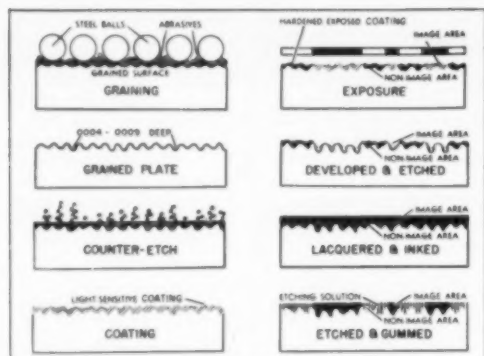

Figure 6. Deep-Etch Process. Graphical representation of the steps involved in the preparation of a deep-etch plate.
**DEEP-ETCH:** The deep-etch process is illustrated in Figure 6. In this process the coating is generally bichromated gum arabic. The coated plate is exposed through a positive so that the non-printing areas are tanned. The plate is then developed with a lactic acid solution containing calcium chloride which removes the unexposed coating in the image areas.